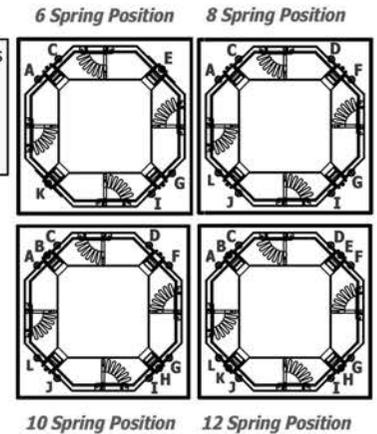

Fig.3
D) Setting The Plate Handling Height (Spring Adjustment). The plate handling height must be set to prevent fingers from getting caught and to avoid the breakage of plates. With both plate dispenser serving elements removed from the base (Fig 3.)